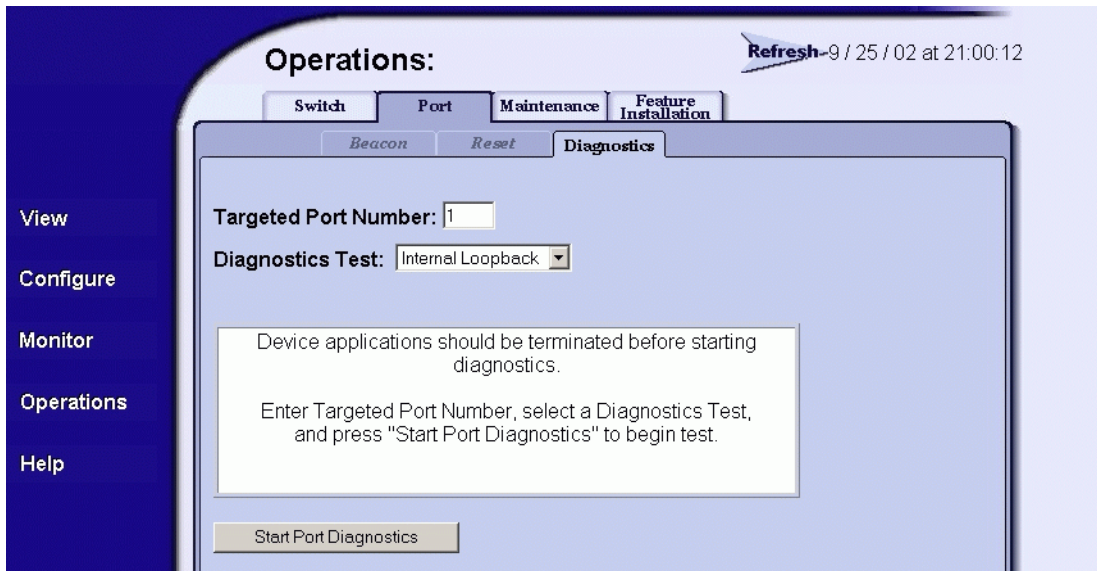

Figure 4-25 Operations Panel (Port Page with Diagnostics Tab)
3. Click the *Port* and *Diagnostics* tabs. The *Port* page displays with the *Diagnostics* tab selected (Figure 4-25).
5. Click the *Port* and *Diagnostics* tabs. The *Port* page displays with the *Diagnostics* tab selected (Figure 4-25 on page 4-39).